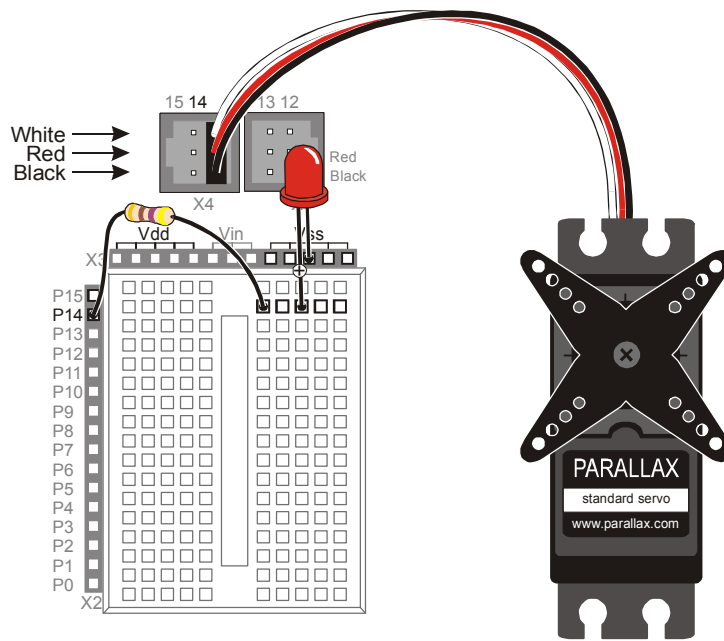

Figure 4-13
- ✓ Connect the servo to the servo header as shown in Figure 4-13.